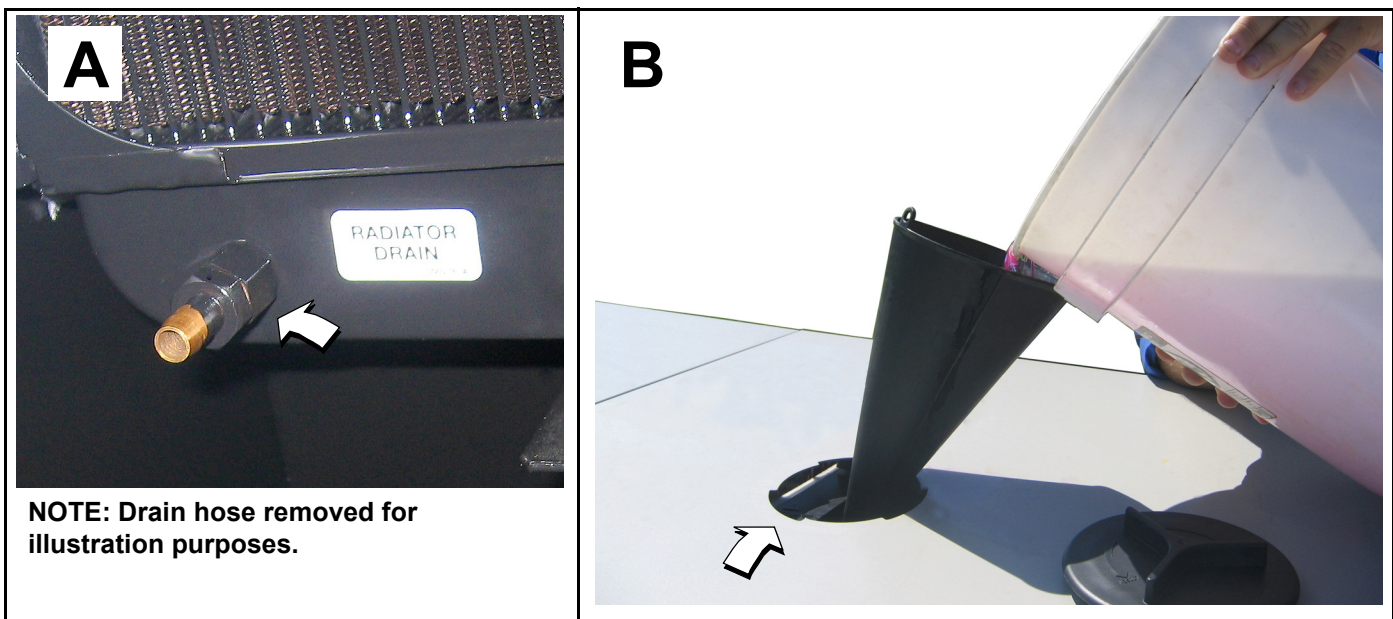

Figure 5-14. Drain/Fill Coolant System
6. Rotate hex fitting to open drain cock. See A of Figure 5-14
14. Insert funnel into filler neck of radiator. See B of Figure 5-14